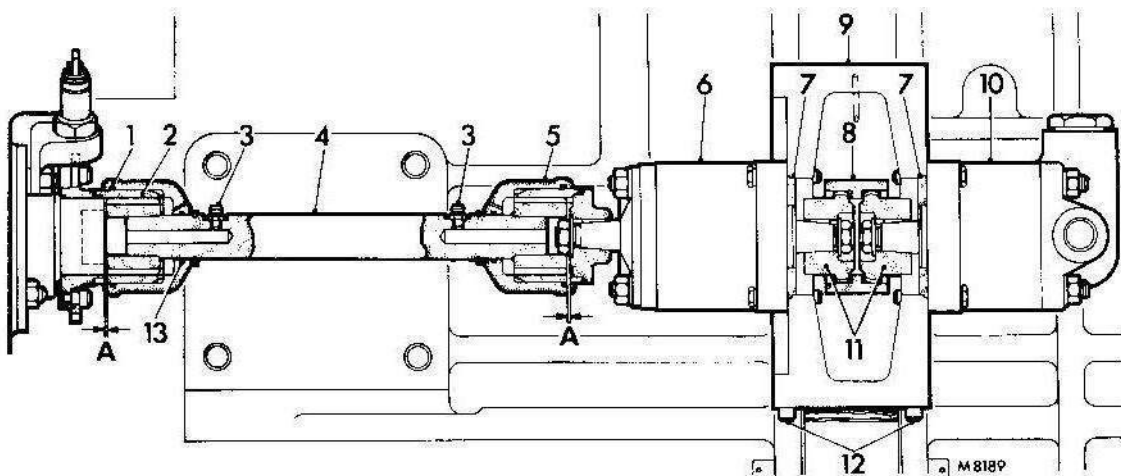

FIG. 1. GENERAL VIEW OF HYDRAULIC PUMPS
Note: Socket-headed screws (12) must be located against the crankcase web, this ensures that the pumps are in the correct position for refitment of the pipes. Obtain a drive shaft end-float at each end of the shaft, see (A), Fig. 1 for dimension.